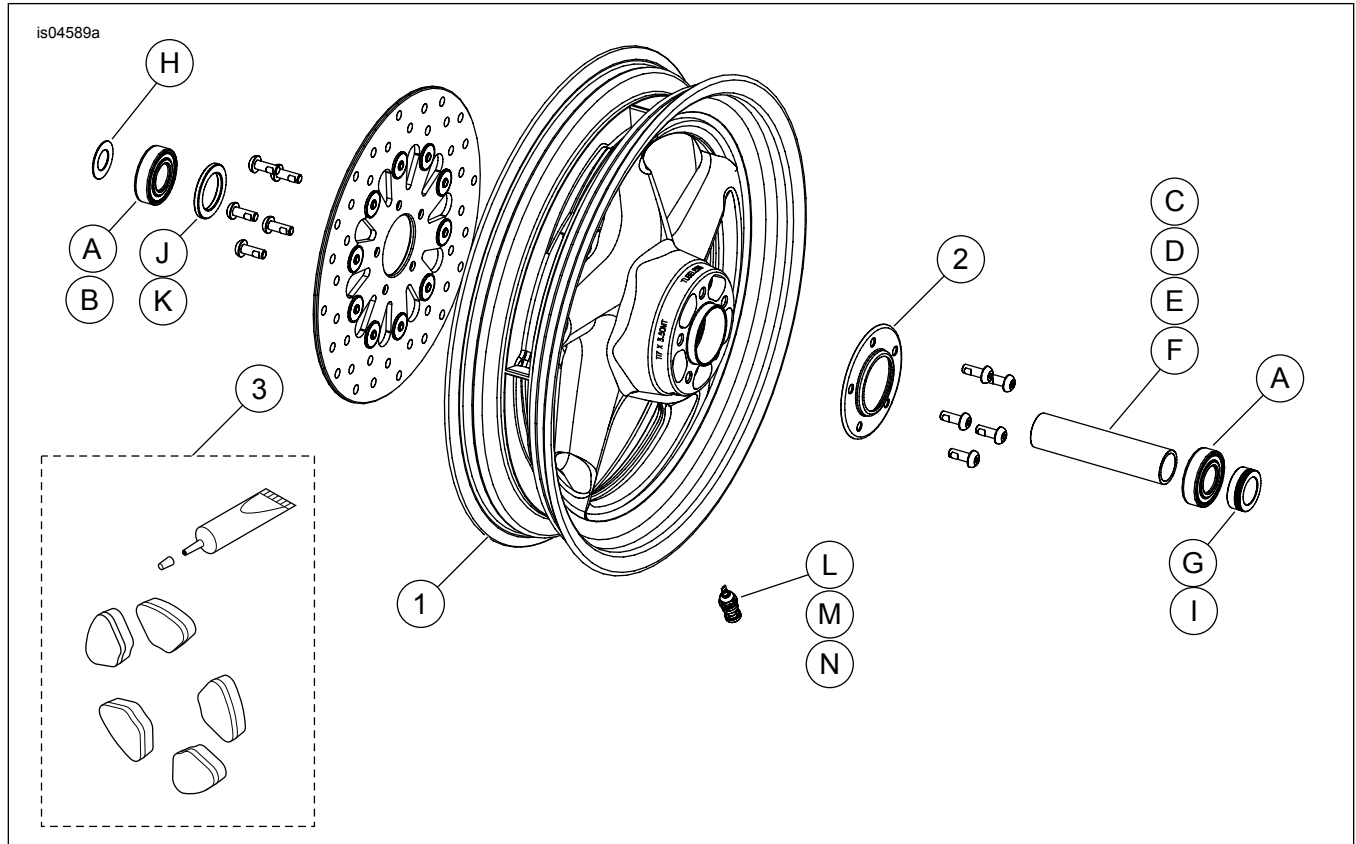

Figure 2. Front Reaper Wheel (21-inch wheel shown)
2. See Figure 2. Install valve stem assembly (L) on wheel. Refer to TIRES in service manual.